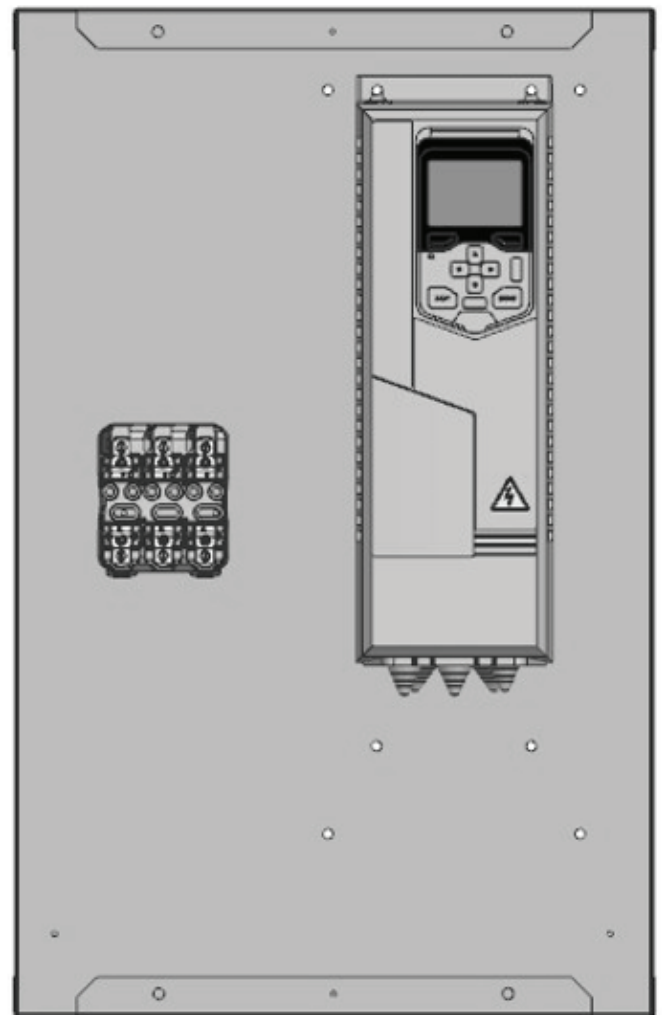

Fig. 47 — Remote VFD Enclosure Components, 50HQP Units
3. Inspect the VFD and VFD Fuse Block. Ensure the fuses are secured inside the VFD box. See Fig. 47 and 48.